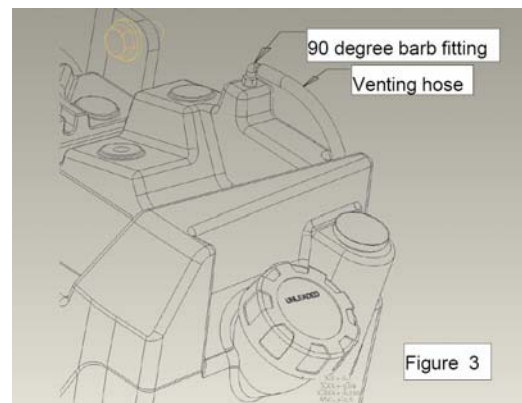

Figure 3
**Step 7.** Install the fuel tank vent extension fitting and hose as shown in Figure 3. (For Workman MDE skip this step unless a ESPAR heater is being used)